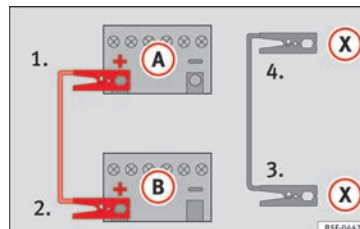

Fig. 80 Diagram of connections for vehicles with Start Stop system
- 4b. *For vehicles with Start-Stop system:* connect one end of the **black** jump lead **(X)** to a suitable ground terminal, to a solid piece of metal in the engine block, or to the engine block itself » **Fig. 80**.